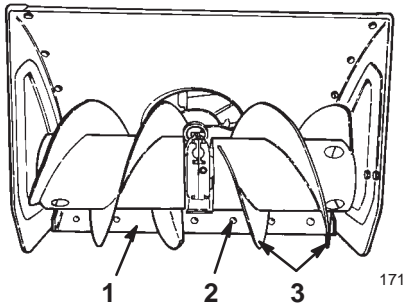

Figure 28
6. Support the **auger blades** so that they are at least 1/8 inch (3 millimeters) off the ground (Fig. 28).
8. To adjust the scraper, loosen the carriage bolts that secure the scraper to the auger housing (Fig. 28), level the scraper, and tighten the carriage bolts.